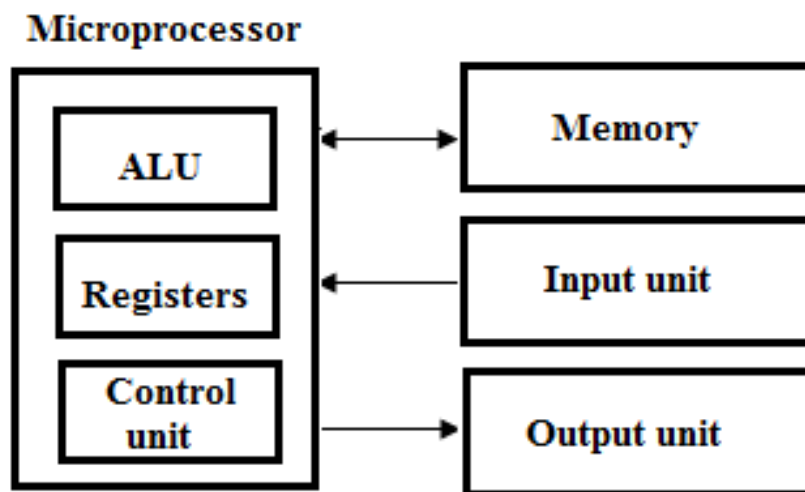

Figure 5.1 : Microprocessor based system
Microprocessor is a multipurpose programmable integrated circuit (IC) chip. It has computing and decision-making capabilities similar to the central processing unit (CPU) of a computer. Figure 5.1 shows the parts of a microprocessor based system. The microprocessor works as per the program stored in memory. Data from the external world enters the microprocessor through the input unit. Data may be sent to the external world through the output input.